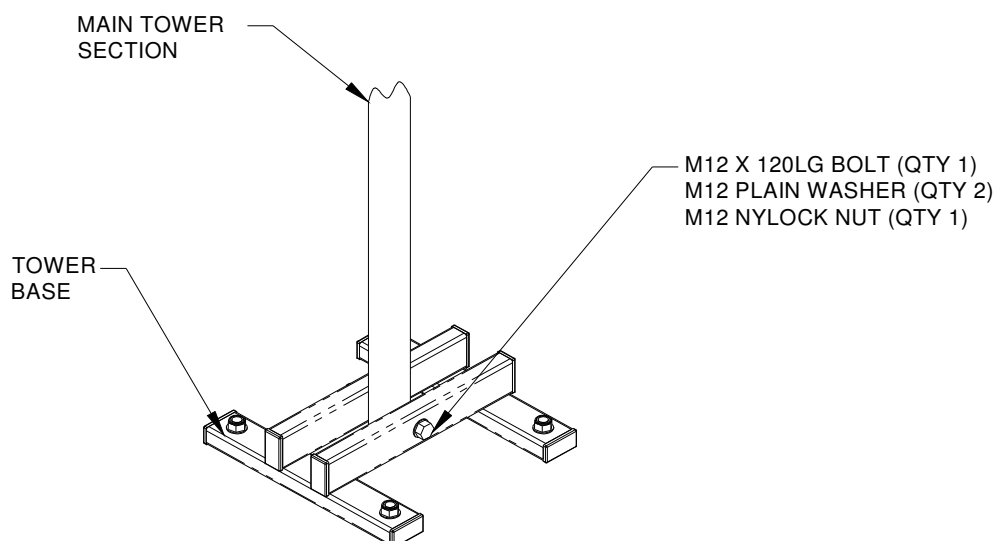

Fig 7: Attached the main tower section to the tower base
8. **Attach the Main Tower Section** - With the appropriate holes drilled in the main tower section, and the tower base firmly fixed in position, mate the two items together. Move the main tower section over to the tower base. Insert the end of the tube with the 13mm hole into the base and secure it with the M12 X 120long bolt. Use 19mm A/F spanners to firmly tighten the bolt - see fig 7. The main tower section can now be pivoted to rest upon the ground to carry out the remaining assembly stages. It is recommended that the top end of the main tower section is lifted slightly above the ground by placing it on the tower kit packaging (this will make the next assembly stages easier to complete)